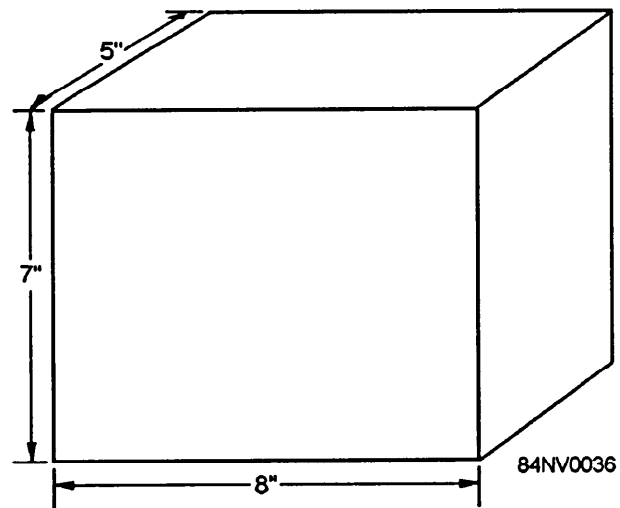

Figure 14-36.—Three-dimensional view.
To find the volume (V) of the cube shown in figure 14-36, you must multiply length (L) times width (W) times height (H), or $V = LWH$. Since $L = 8$ inches, $W = 5$ inches, and $H = 7$ inches, $V = 8 \times 5 \times 7 = 280$ cubic inches.